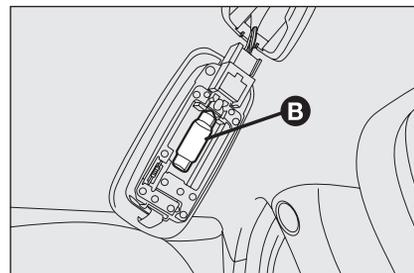

fig. 39
- replace the bulb **B-fig. 39** releasing it from the side contacts making sure that the new bulb is correctly clamped between the contacts.